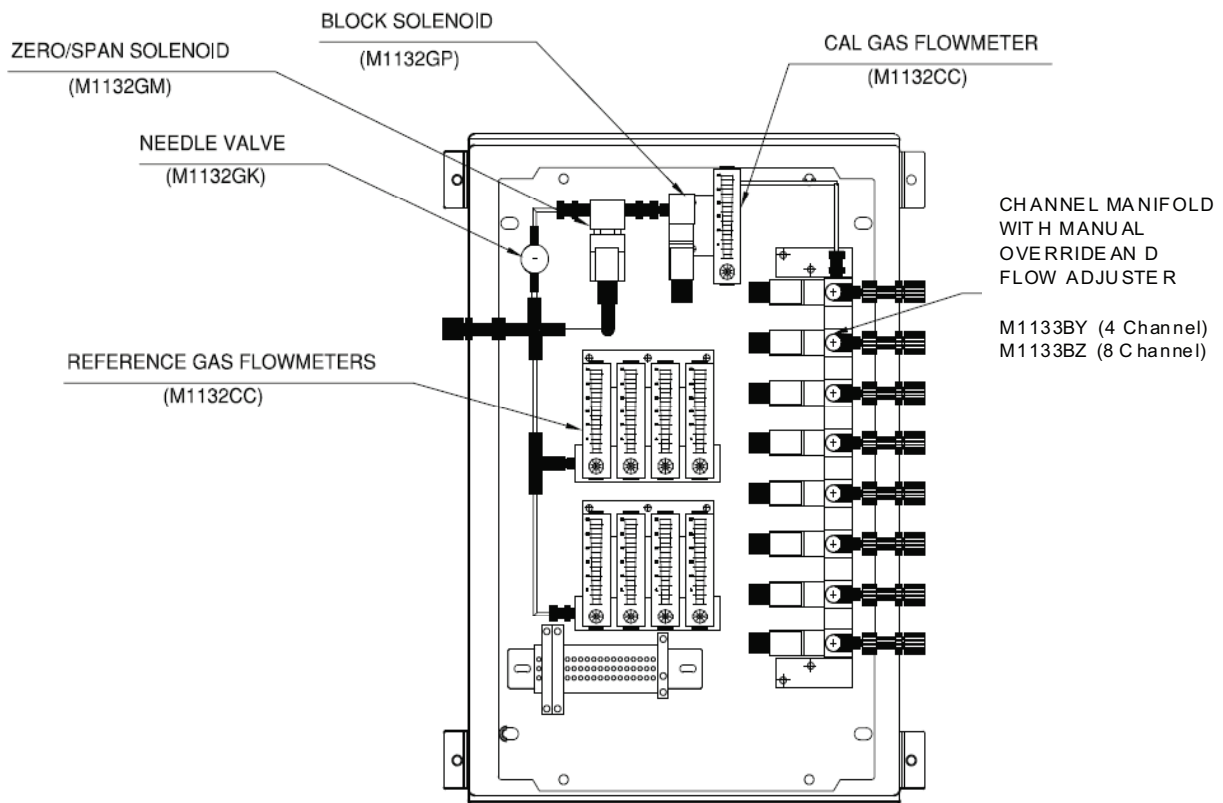
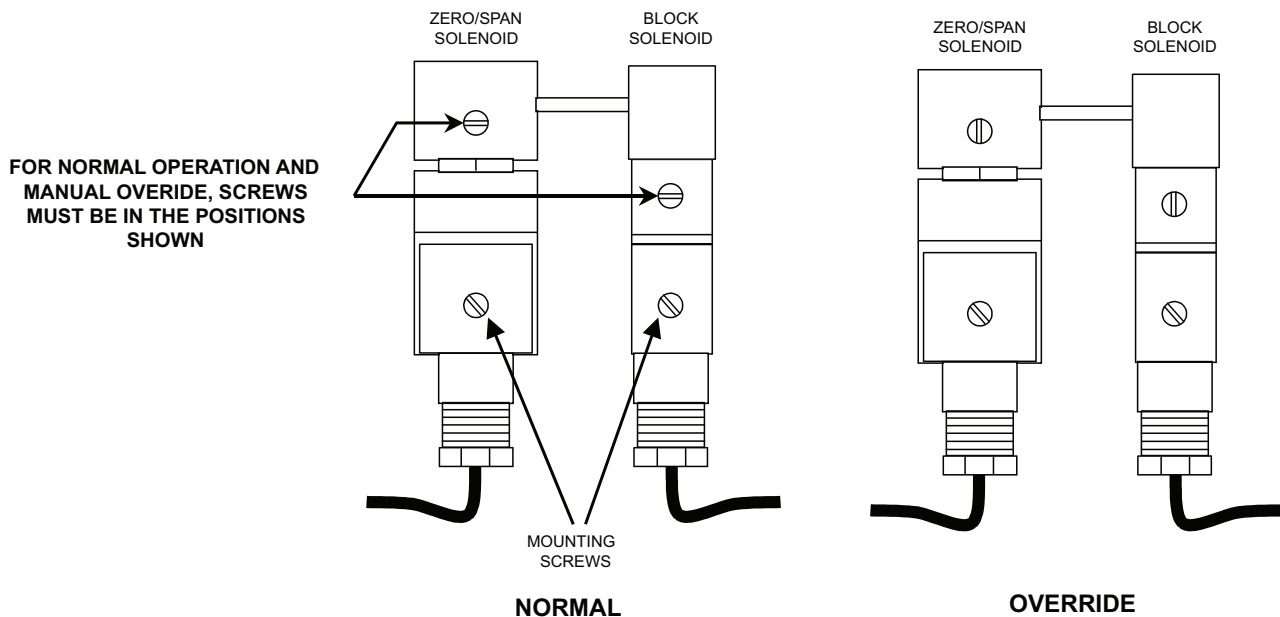
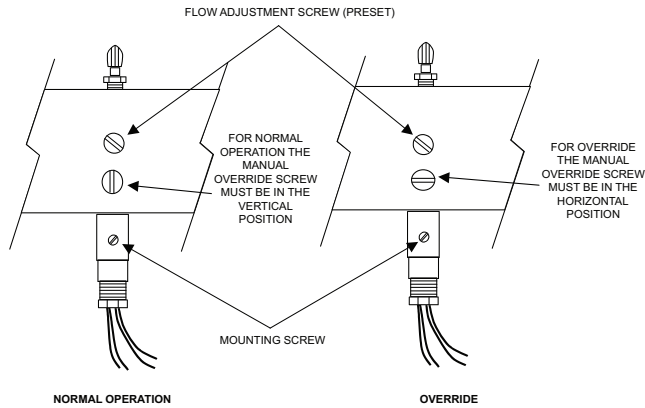

Figure 5.1 AC8 Parts Listing
Figure 5.2: Zero and Block Solenoid
Figure 5.3: Typical Channel Solenoid
3. Locate the block solenoid shown in Figure 5. Using a flat tip screwdriver, turn the manual override screw on the block solenoid to the 90° position as shown in Figure 5.2.
4. Turn the channel solenoid valve’s manual override screw to the horizontal, or ON (NOT NORMAL) position for Uall probes in use. See Figure 5.1 and 5.3.
7. After repairing the leaks, if any, turn all probe channel solenoids and the block solenoid to the NORMAL position as shown in Figure 5.2 and 5.3.
Locate the reference flow air meters in Figure 5.1. Adjust the black flow adjustment knob on each reference air flow meter to 0.8 LPM (800cc/min).
2. Locate the block solenoid shown in Figures 5.1 and 5.3. Using a flat tip screwdriver, turn the manual override screw on the block solenoid to the vertical position, as shown in Figure 5.2.
3. Locate the **cal gas flow meter** in Figure 5.1. Turn the black adjuster knob to the maximum open position. This fully opens the cal gas regulator, allowing precise adjustments of flow rates.
4. Locate the **channel solenoid valve** for the probe with the longest tubing run in Figure 5.1. Turn the manual override screw to the horizontal, or ON position. Refer to Figure 5.3.
5. Each channel has its own flow adjustment screw located on the **channel solenoid valve** as shown in Figure 5.3. Adjust the flow adjustment screw for the probe so that the flow rate shown on the cal gas flow meter is 1 LPM (1000 cc/min).
8. After all flow rates have been set manually to 1 LPM, turn the channel solenoid for the probe with the longest tubing run back ON to the manual override position – making sure all others are **OFF** (normal position shown in Figure 5.3). Turn the cal gas flow meter's adjustment knob to 0.6 LPM (600cc/min).
9. Turn the **manual override screw** (Figure 5.3) on the zero/ span solenoid (three way solenoid) to the 90° position. This starts the flow of the zero gas. Adjust the **needle valve** to the left of the three-way solenoid so that the flow rate is 0.6 LPM (600cc/min). If 0.6 LPM is difficult to obtain, it will be necessary to slightly increase the zero gas pressure to the unit.
10. Confirm that all **channel solenoid overrides** for all used probed are turned back to the normal position as shown in Figure 5.3.